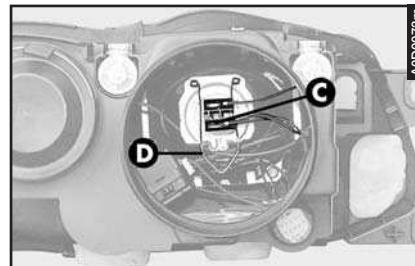

fig. 40
- Disconnect the snap-fitted connector (**C**- **fig. 40**).